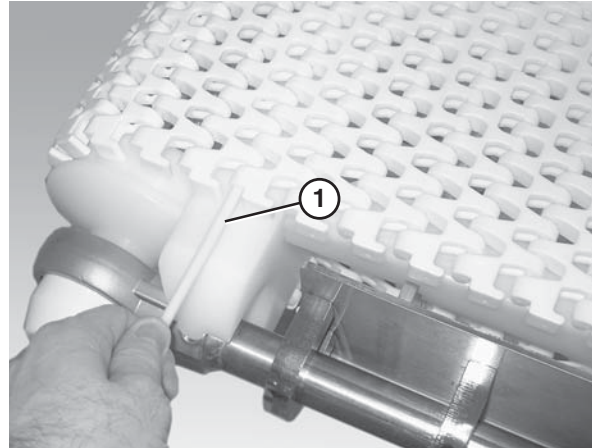

Figure 38
5. Insert the belt rod (**Figure 38, item 1**).